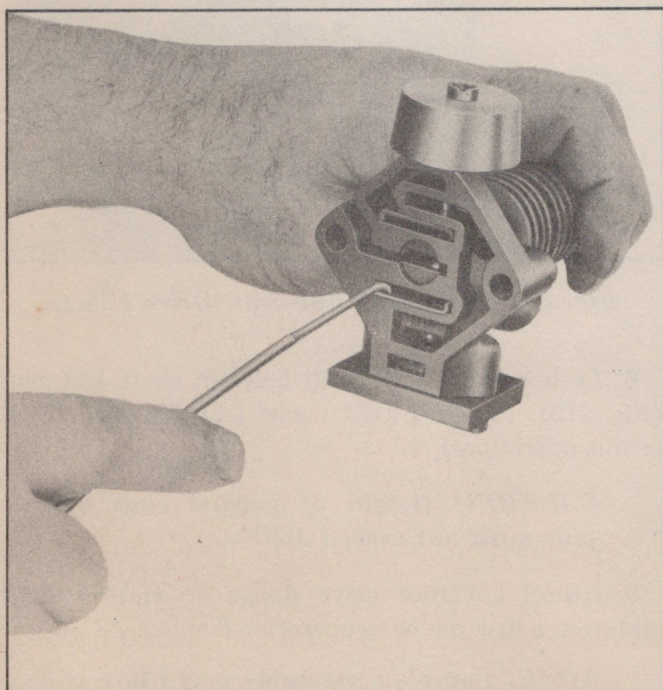

Fig. 213—Removing Small Governor Plunger Stop
2. Remove small governor plunger stop (Fig. 213).